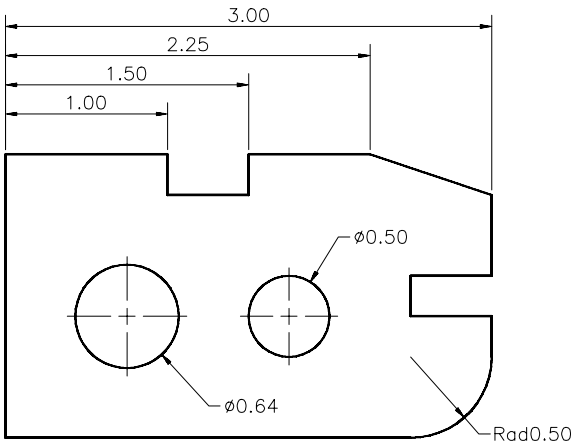

Figure 10-32 Drawing for Example 1
The following example illustrates the concepts of dimension style families, Figure 10-32.
1. Open a new file and then draw the object shown in Figure 10-32.
15. Use the linear and baseline dimensioning to draw the linear dimensions as shown in Figure 10-32. You will notice that when you enter any linear dimensioning, AutoCAD automatically uses the values that were defined for the linear type of dimensioning.
16. Use the diameter dimensioning to dimension the circles as shown in Figure 10-32. Again, notice that the dimensions are drawn according to the values specified for the diameter type of dimensioning.
17. Now, use the radius dimensioning to dimension the fillet as shown in Figure 10-32.